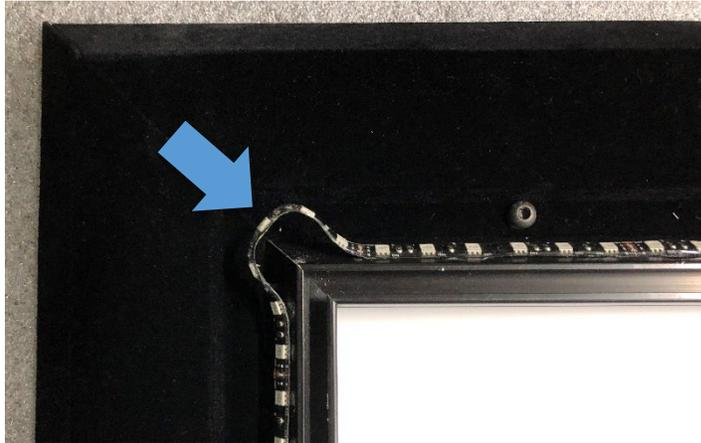

Figure 3: Corner loop for LED coverage
3. Once you reach the corner/turn on the frame, make a wide loop with the LED strip so that at least 4-5 LED diodes are hanging in the corner to even out the light field coverage (see Figure 3).